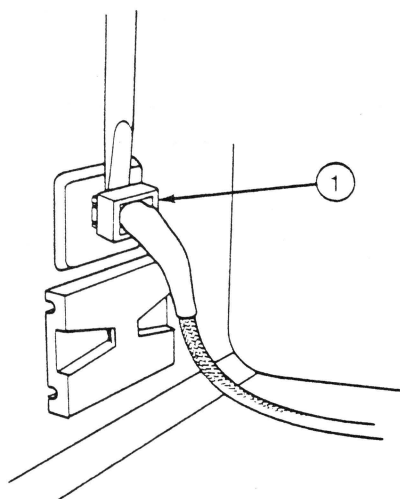

FIGURE 7
4. With a flathead screwdriver, pry the cable clamp off the back of the LED (Figure 7, #1) and slide it down the cable, out of the way.